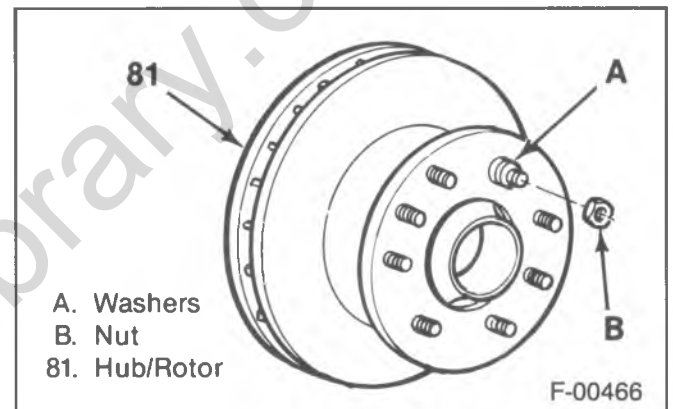
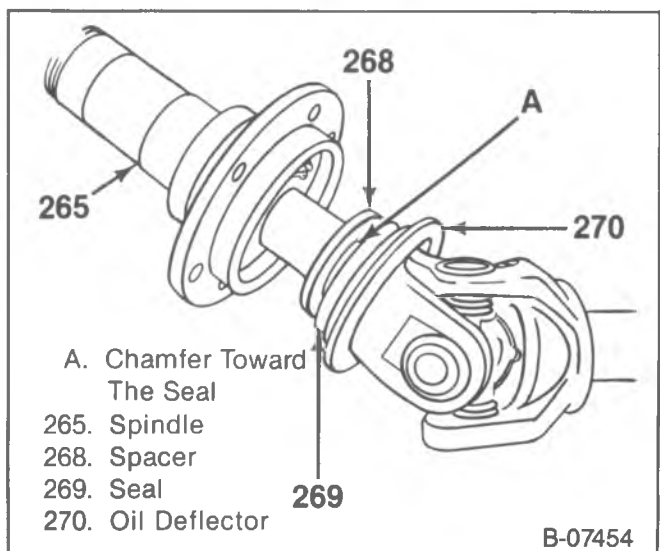

Figure 47—Installing the Hub Bolts
Figure 50—Installing the Spindle
1. New, serrated bolt (255) into the hole in the hub/rotor.
- Place four washers onto the bolt, then fasten a nut onto the bolt until the nut bottoms on the washers (figure 47).
- Relubricate the shaft bearing (266) and the spindle (265) with a high melting point type wheel bearing grease. Refer to MAINTENANCE AND LUBRICATION (SEC. 0B).
1. Shaft bearing (266) and bearing seal (267) into the spindle (265) (figure 47).
2. Oil deflector (270) and seal (269) onto the axle shaft.
- Seal (269) onto the oil deflector (270) with the deflector lip toward the spindle (265).
3. Spacer (268) onto the axle shaft.
- The chamfer points toward the oil deflector (270) (figure 50).
4. Spindle (265) onto the steering knuckle (274).
- Slide the spindle over the axle shaft until it seats on the steering knuckle. The bolts (278) must protrude through the spindle.